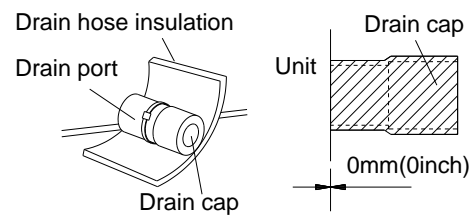

Figure 3-1-13
(10) The unused drain port also should be insulated properly. ( Figure 3-1-13)